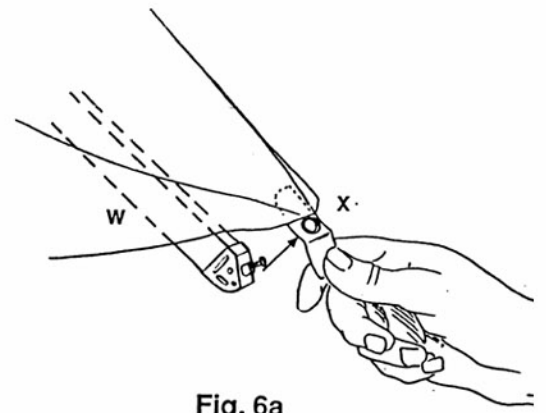

Fig. 6a
2. (fig. 6a) unscrew the screws (V'') and release the grommet tabs (X) from the ribs (W).
CHANGING A RIB (Fig.6a, 7, 7a):
1. (fig. 6a) unscrew the screw (V'') and release the grommet tab (X) from the rib (W).